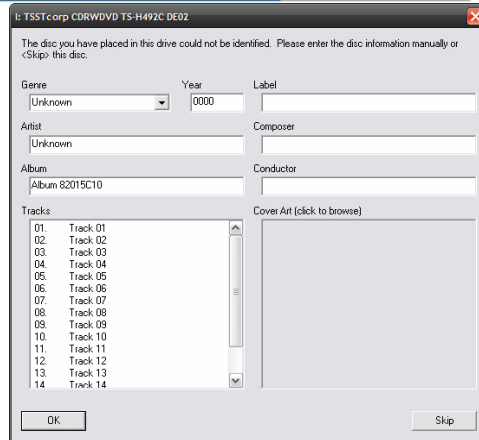

Figure 4.8 – Metadata Manual Entry
- **Query User** - User will immediately be prompted to enter album information manually during the batch process, as shown in figure 4.8.